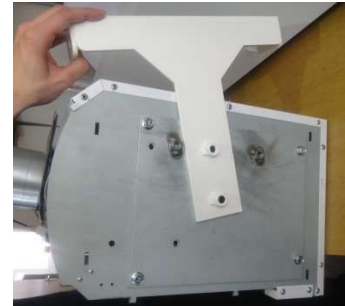

Fig 3
- Step 1** Locate Ceiling Hanging Brackets to each side of the air curtain as shown in Fig 3.
- Step 2** Locate Ceiling Hanging Brackets to each side of the air curtain as shown in Fig 3.